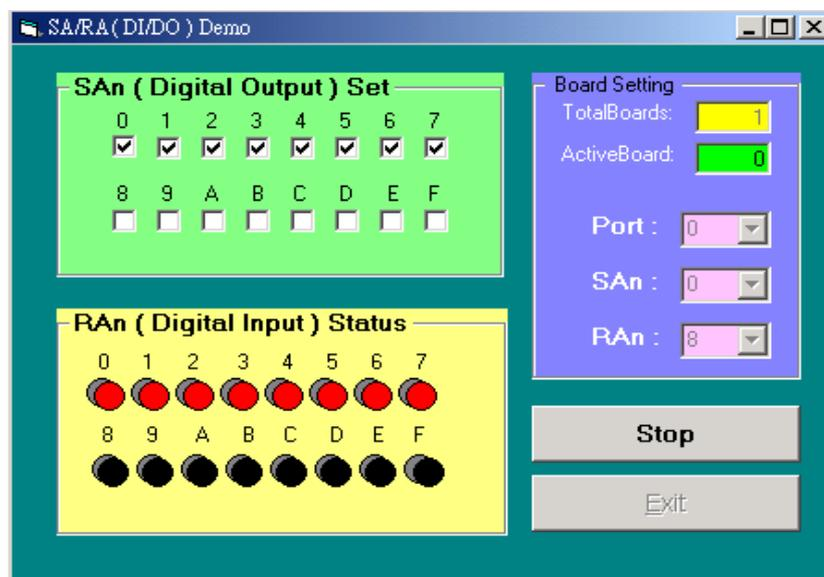

Figure 7.2
- Step 4 : On the screen of Fig7.2, the RAn (Digital Input) status will display the 16-bit data sent from the remote SA8 (FR-2053) to the host RA8 (FRB-100/200).